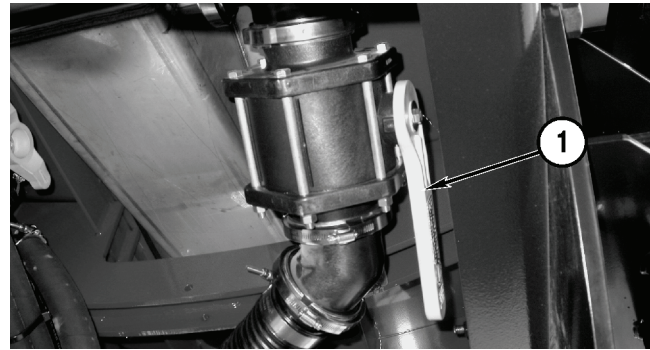

Figure 4-27
4. Open the sump valve (Figure 4-27, 1) on the underside of the product tank.